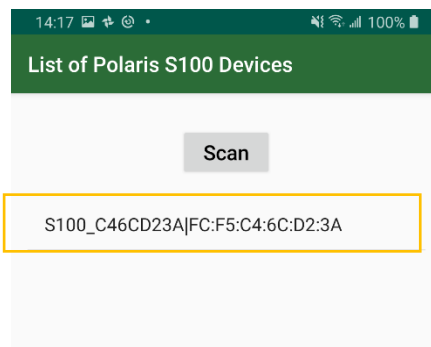

Figure 3-2
3. Launch Android app “Polaris Connect”, and selected the paired S100 device. See Figure 3-2.